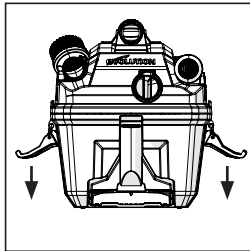

FIG. 4
- Remove the power head assembly of the wet/dry vac by pulling outward on the lid clips located on each side of the vac. Lift off the power head assembly. (Fig. 4)